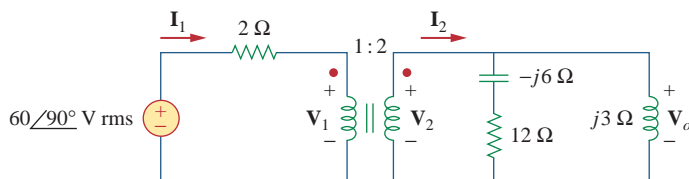

Figure 13.122
13.57 For the ideal transformer circuit of Fig. 13.122 below, find: